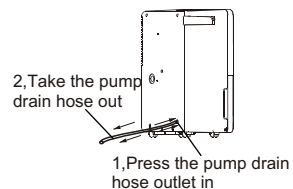

Fig. 16
- Press the pump drain hose outlet in and take the pump drain hose out from it (See Fig. 16). Make sure do not let the water in the pump hose drip to the floor.